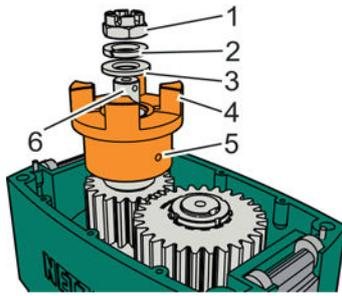

Fig. 143: Attaching the coupling half
24. ▶ Slide the coupling half (Fig. 143/4) in the correct position onto the drive shaft (Fig. 143/6), aligned with the keyway to the key, up to the distance ring.
25. ▶ Slide on the washer (Fig. 143/3) and the retaining ring (Fig. 143/2).
26. ▶ Screw the hexagon castle nut (Fig. 143/1) by hand onto the drive shaft (Fig. 143/6).
27. ▶ Tighten the hexagon castle nut (Fig. 143/1), aligned with the borehole of the safety splint.
28. ▶ Screw the hexagon socket set screw (Fig. 143/5) into the coupling half (Fig. 143/4) and tighten with the prescribed torque (☞ Appendix "Screw tightening torques" on page 131).